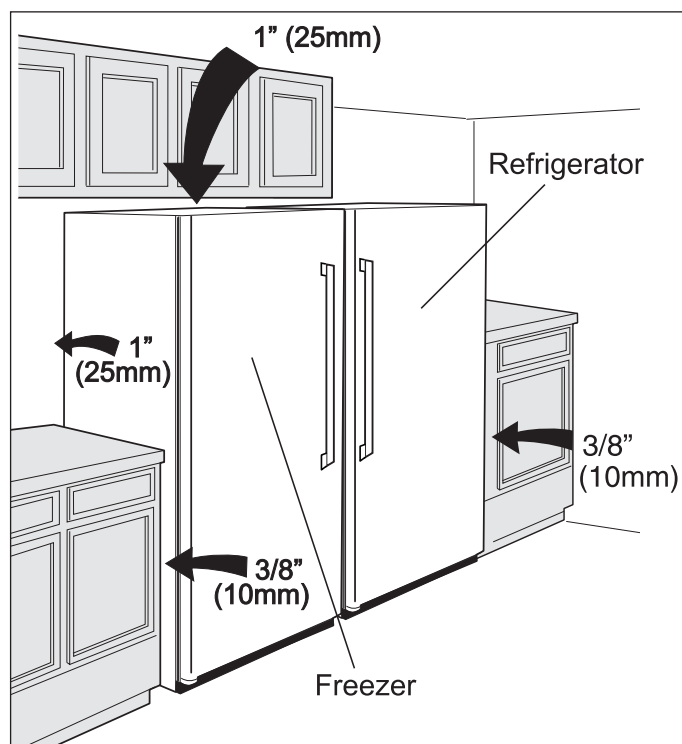

Figure 2-1. Installation Clearances
6. For ease of installation, proper air circulation and electrical connections, see Figures 2-1 and 2-2 for recommended clearances.